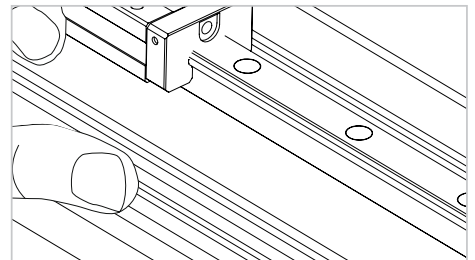

Fig. 9
- 8) Pull off the sliding block (Fig. 9). To re-assemble the sliding blocks, carry out the same operations in the opposite way.